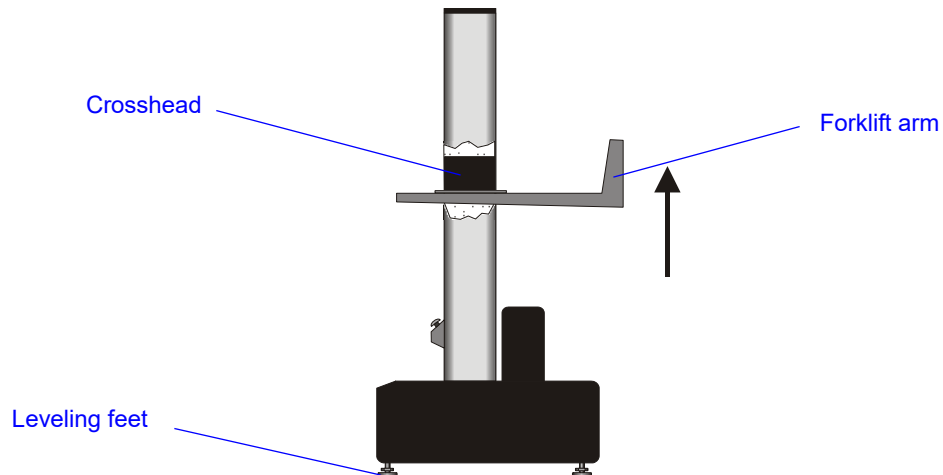

Figure 3-2. Lifting the Frame from the Crosshead
- Crosshead method - Using a forklift with padded forks to lift the load frame from under the crosshead as shown in Figure 3-2 on page 3-7.
2. Using a forklift with padded forks or protective material around the crosshead, carefully insert the forks under the crosshead between the columns. Refer to Figure 3-2 on page 3-7.